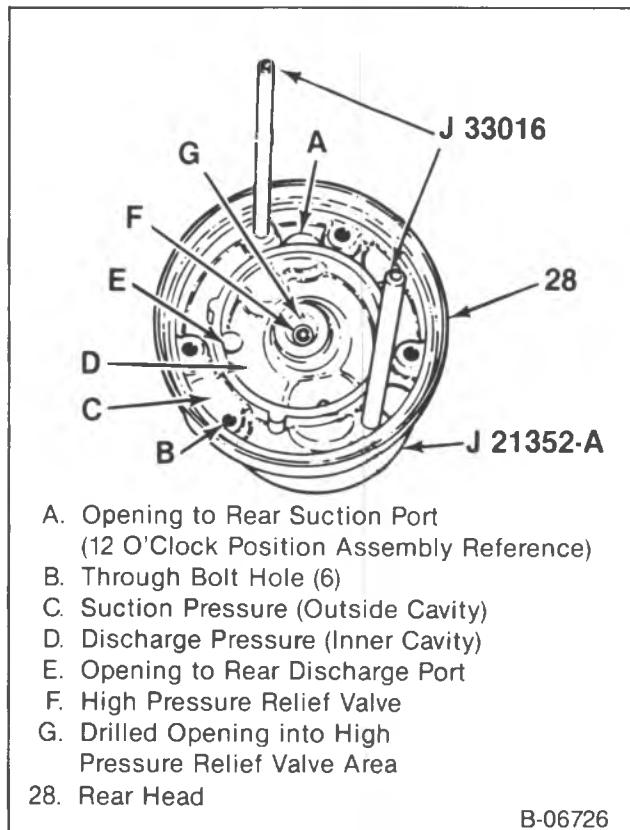
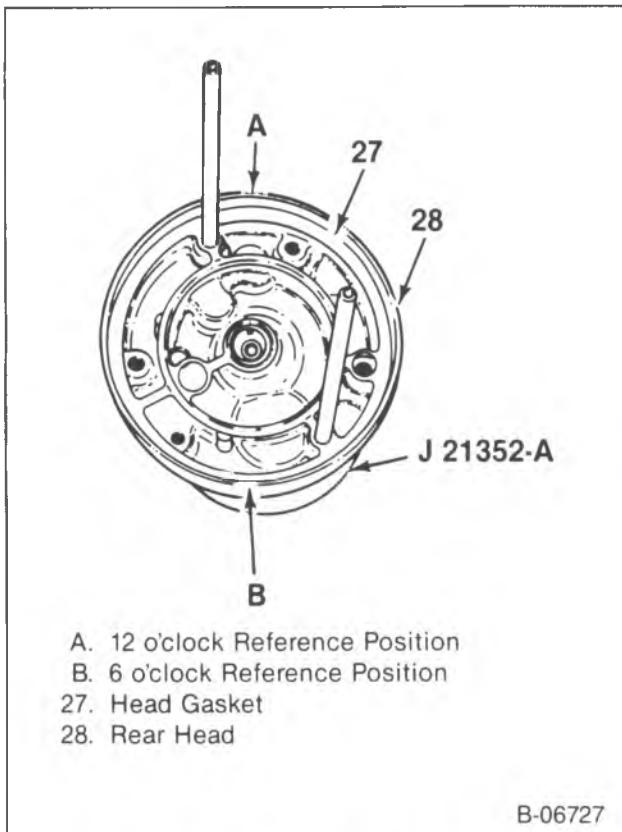
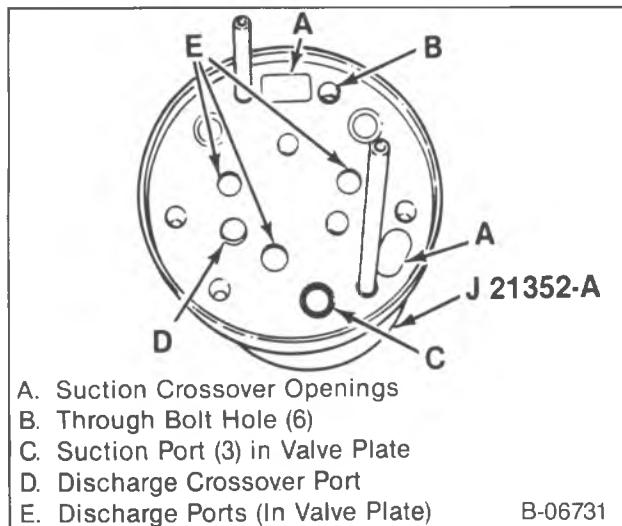
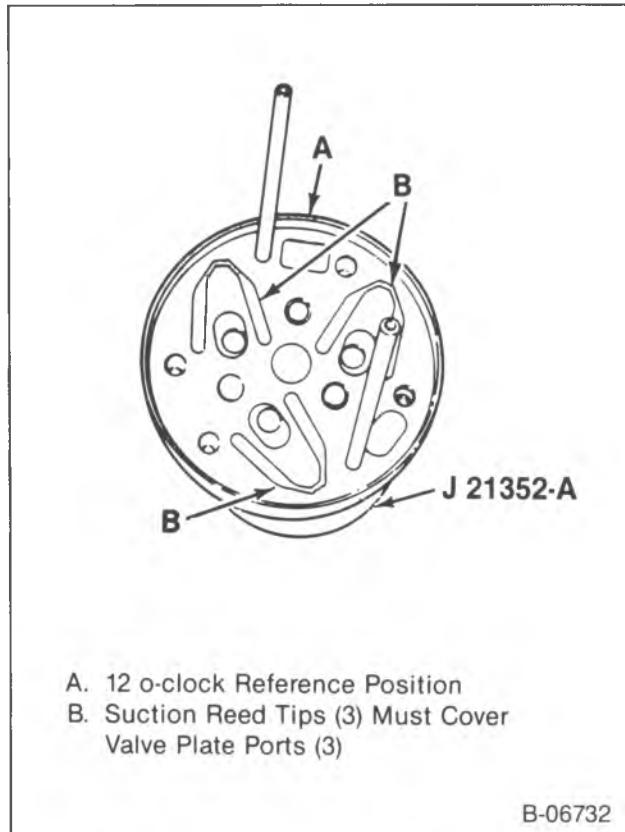

Figure 30—Positioning the J-33016 Guide Pins
Figure 31—Installing the Rear Head Gasket
Figure 32—Installing the Rear Valve Plate
Figure 33—Installing the Reed Plate
1. Rear head (28) onto J 21352-A.
- Install J 33016 guide pins small diameter ends into the through bolt holes (figure 30).
2. Head gasket (27).
- Over guide pins into head (28) (figure 31).
- Locate the head gasket (27) to prevent the discharge valve reed retainer on the rear valve plate (26) from hitting the internal segment of the head gasket (27) (figure 31).
- 3. Valve plate (26).
- Over the guide pins into position (figure 32).
- 4. Suction reed plate (25).
- Over the guide pins into proper position (figure 33).
- Be sure all three suction reed tips cover the suction ports in the rear valve plate (26).
- 5. Cylinder seal (24).